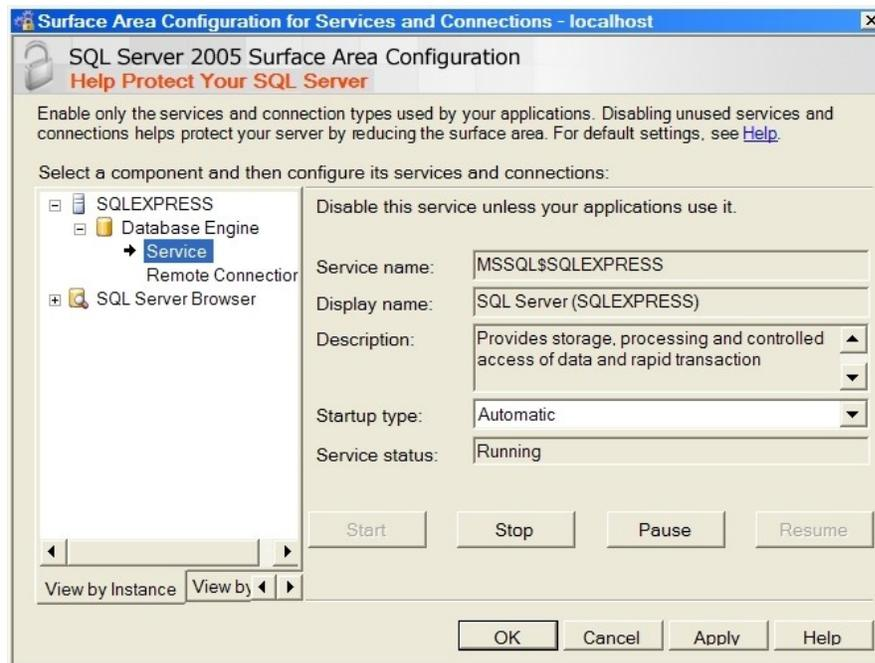

Figure 78
12. Click Service (see Figure 78 on page 49).